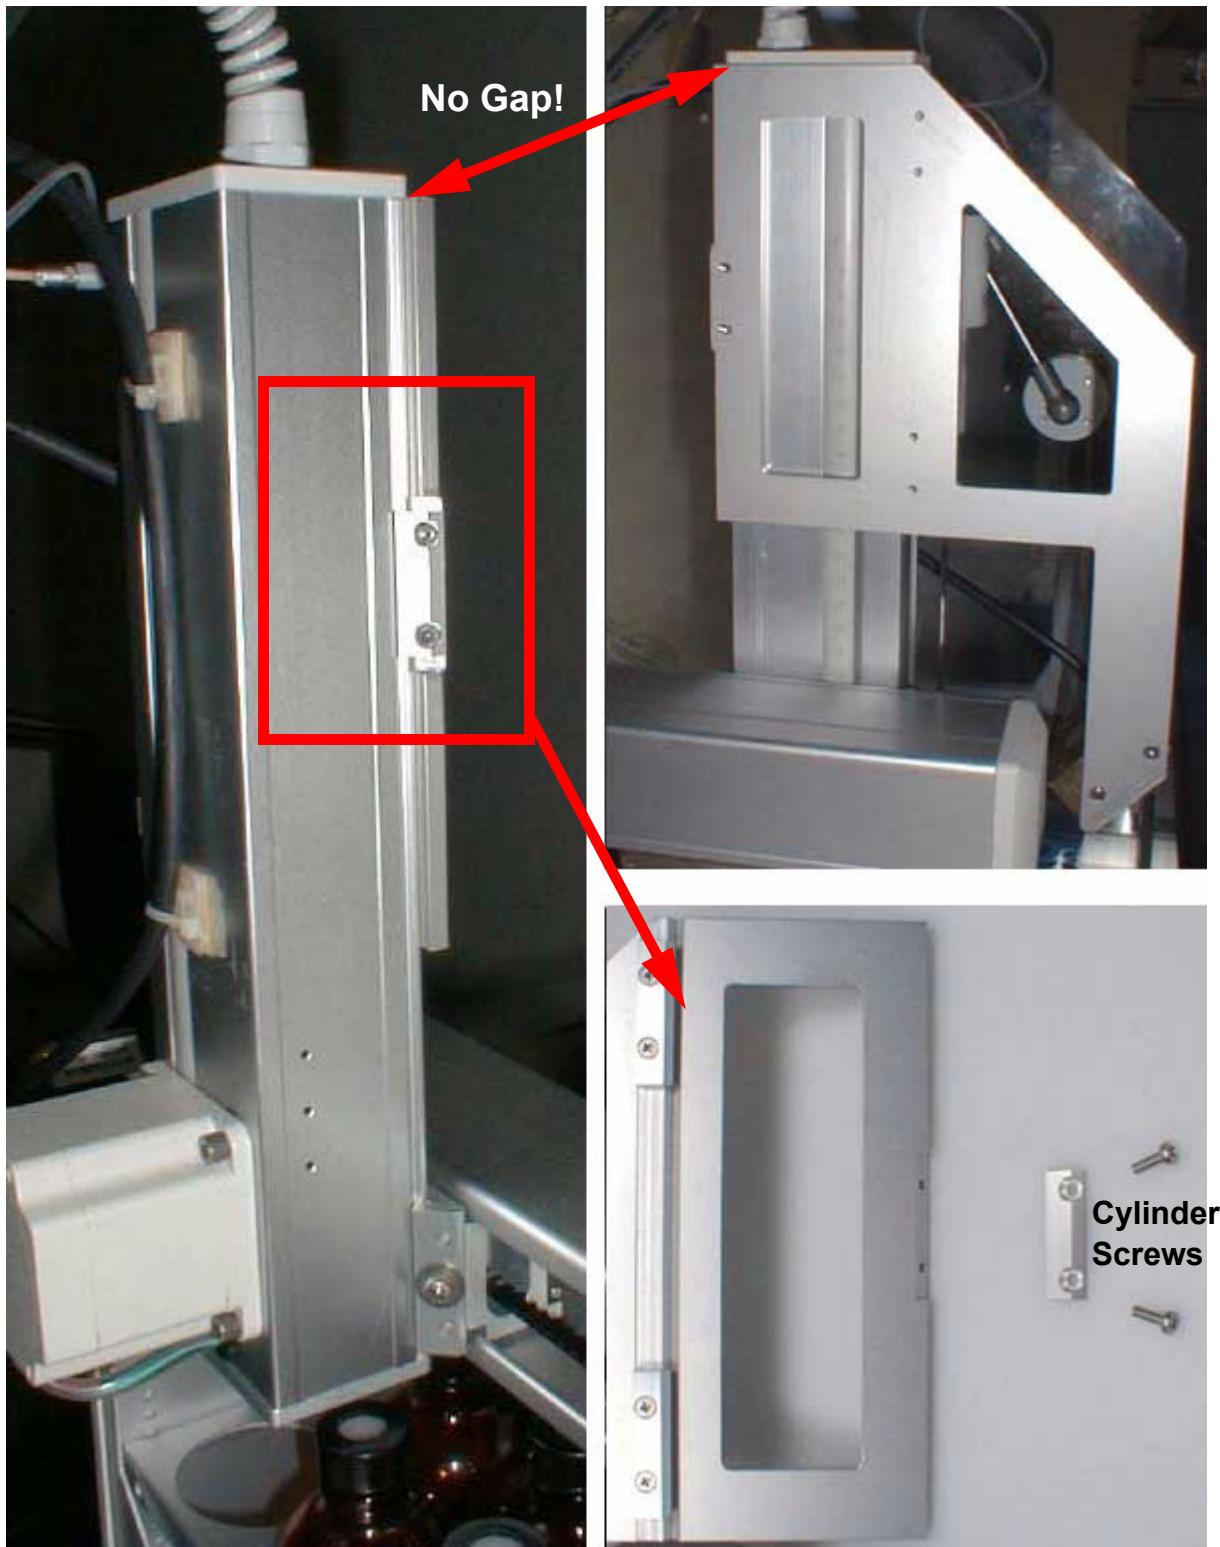

Figure 3.2. Mounting the Barcode Reader Bracket
2. Mount the barcode reader bracket on the Z-tower of the Gilson Liquid Handler using the two M3x10 cylinder screws. Ensure that you mount the bracket just under the top plate of the Z-tower cover. There should not be a gap between the Z-tower cover and the bracket (as shown in Figure 3.2).